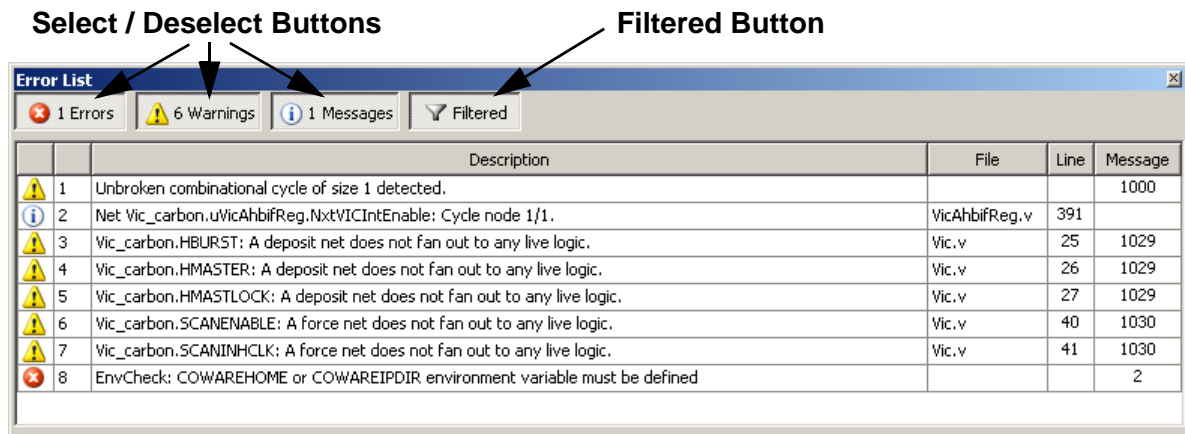

Figure 2-37 Error List Window Buttons
1. Click any of the Select / Deselect buttons to hide or redisplay Errors, Warnings, or Informational Messages from the view (Figure 2-37).